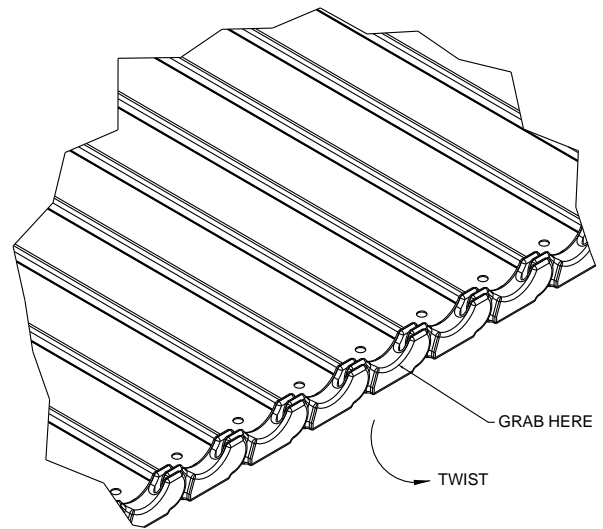

Fig. 13
4. To remove the end shoes, grasp the middle of the end shoe with a vise grip and twist out until the end shoes slides out of the end of the slat. (Fig 13.)